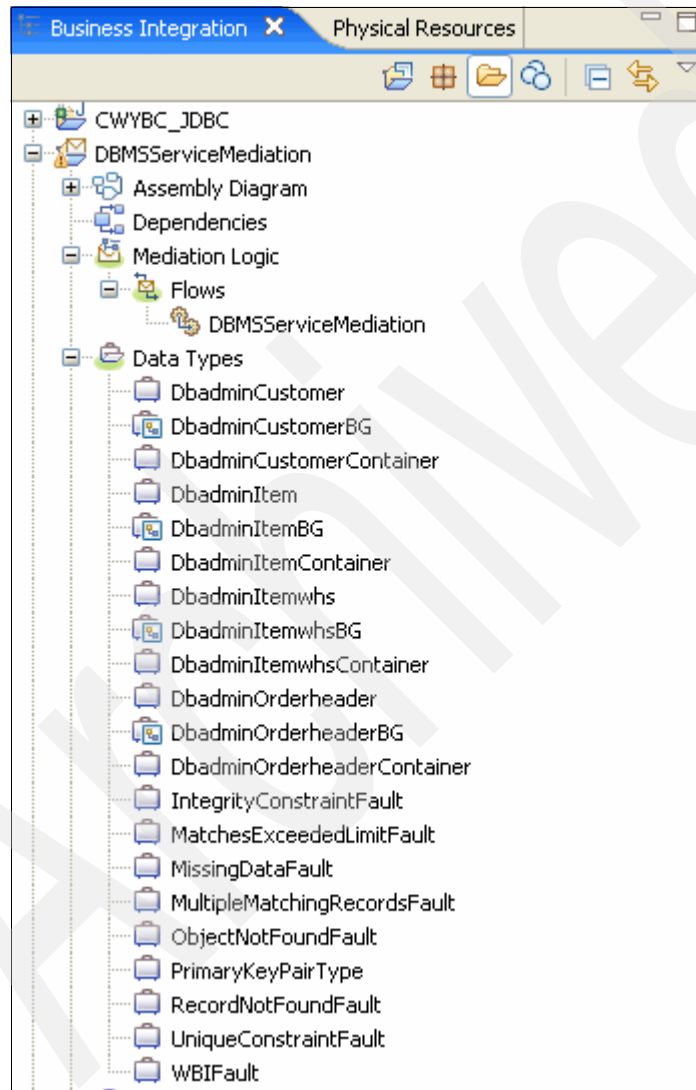

Figure 5-17 New data types created for the adapter
1. Expand the DBMSServiceMediation project and expand the Data Types folder to see data types that are generated by the JDBC connector project, as shown in Figure 5-17.